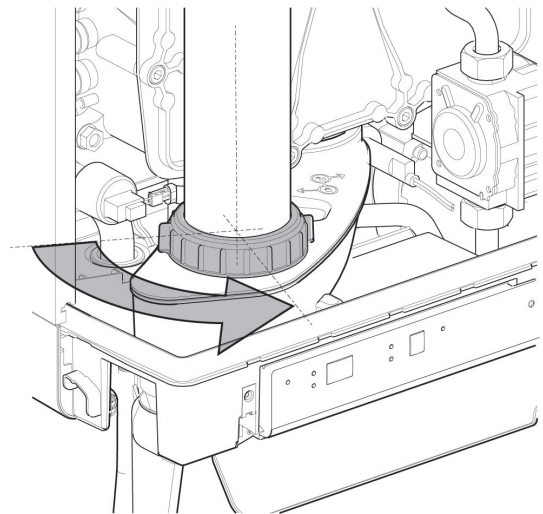

Fig. 2: Loosening of Flue Pipe Retaining Ring
3. Loosen the flue pipe retaining ring as shown 1 in Fig. 2.